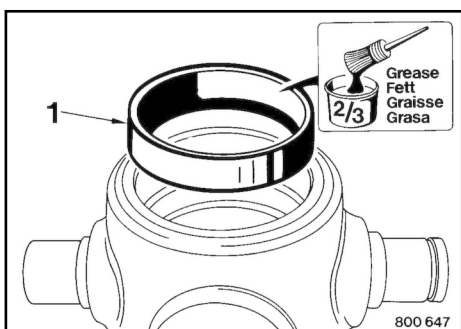

Fig. 198
2. Press outer bearing race 1 ↗ Fig. 198 into the bearing housing and fill to 2/3 with lithium saponified high pressure grease.